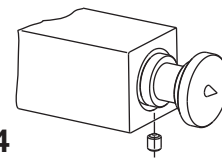

FIGURE 4
6 Insert the Locator Pins into the round holes in the end of the Horizontal Support Tubes (4) so that the points face out and the shoulder is flush with the Horizontal Support Tube. (see Figure 4)